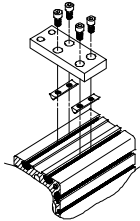

Fig. 3
- Place the DGP(L) so that all the operating parts are accessible.
- Place the central support on the DGP(L) in accordance with Fig. 3.